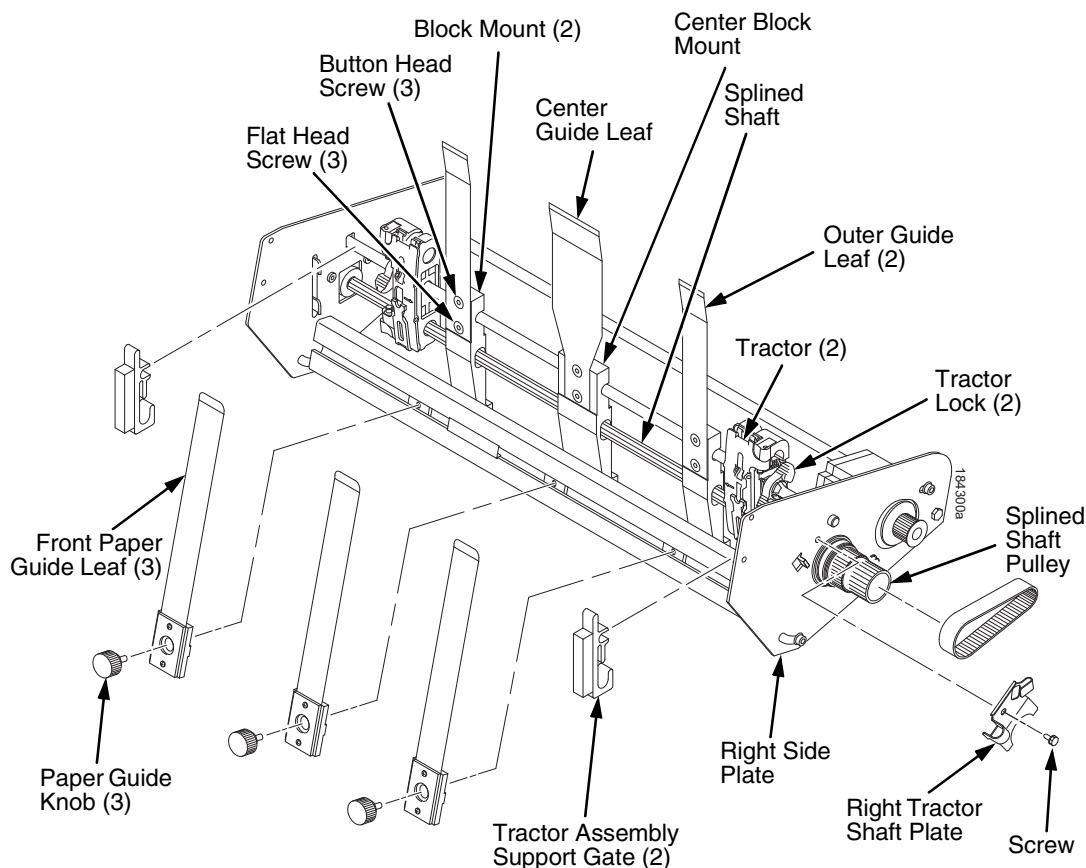
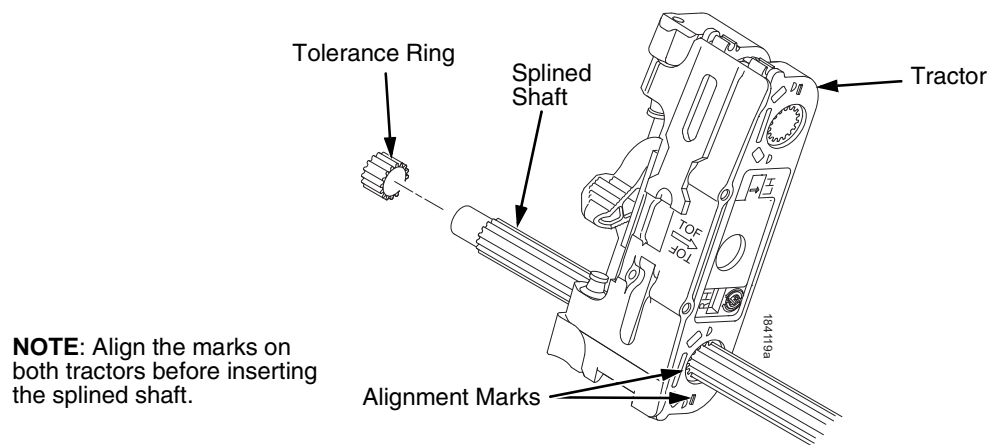

Figure 120. Removing the Paper Leaf Guides and Tractor Assembly Support Gates
Figure 121. Splined Shaft and Tractor Installation
(See page 525, Figure 120.)
3. Remove the top button head screw, bottom flat head screw, and center guide leaf. (See page 525, Figure 120.)
3. Remove the top button head screw, bottom flat head screw, and left outer guide leaf. (See page 525, Figure 120.)
6. Remove the paper guide knobs and front paper guides leaves. (See Figure 120.)
8. Remove the screw securing the right tractor shaft plate and the tractor shaft plate. (See Figure 120.)
9. Slide the splined shaft out of the sealed ball bearing in the left tractor shaft plate and remove the tolerance ring from the left end of the splined shaft (page 538, items 9, 10, 15, and 17).
10. Grasp the splined shaft pulley and slide the splined shaft to the right, out of the tractors and right side plate. (See Figure 120.)
1. Position the splined shaft so the alignment marks are at the bottom on both tractors. (See Figure 121.)
2. Slide the splined shaft through the right side plate, tractors, and block mounts. Make sure the same spline passes the marked groove on each tractor. (See Figure 121.)
3. Install the tolerance ring on the left end of the splined shaft. (See Figure 121.)
4. Insert the tolerance ring lead-in portion into the sealed ball bearing in the left tractor shaft plate while sliding the ball bearing into the right side plate (page 538, items 9, 10, 15, and 26). Push the splined shaft to the left until the flange on the ball bearing is in solid contact with the right side plate. The splined shaft will protrude about 1/16 inch (1.6mm) from the ball bearing.
5. Install the right tractor shaft plate and screw (page 538, items 7 and 8) by first sliding the upper “fingers” up and against the flange on the ball bearing, then sliding the rectangular cutout over the support shaft end, then snapping the U-shaped “spring” behind the tab on the right side plate.
7. Install the paper guide knobs and front paper guide leaves. (See page 525, Figure 120.)